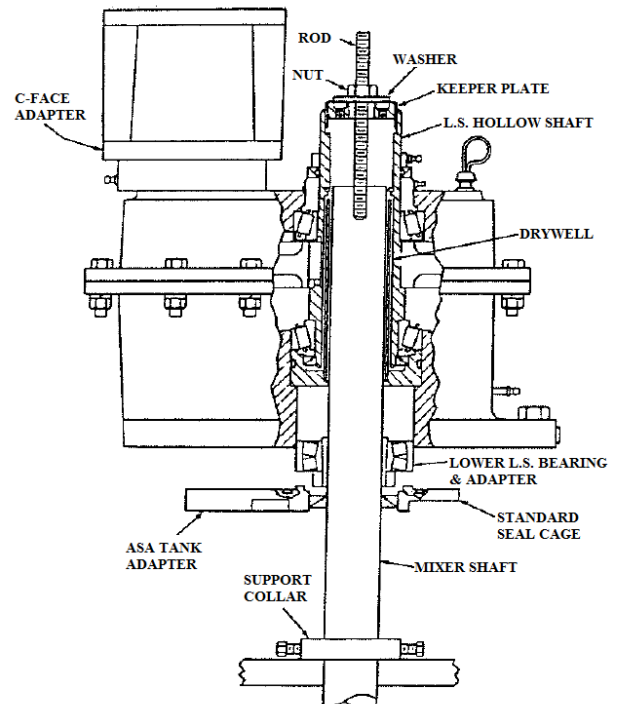

Figure 5.
8. Refer to figure 5. Support the mixer shaft to allow working room beneath the seal cage. Lift the reducer carefully keeping it level and position above the mixer shaft. Slide the reducer down over the mixer shaft and set the outer race of the bearing mounted on mixer shaft in the bore of the reducer housing. Tap the bearing race softly to make certain it is not cocked in the bore. NOTE: do not force the mixer shaft into the reducer; it should slide in smoothly.
9. Refer to figure 5. Thread the keep plate all the way into the hollow shaft. Insert a threaded rod through the plate and into the mixer shaft. Tighten a nut on the threaded rod to draw the mixer shaft into the unit until it contacts the keeper plate. When the mixer shaft is in place (support it in this position), remove the threaded rod and keeper plate.